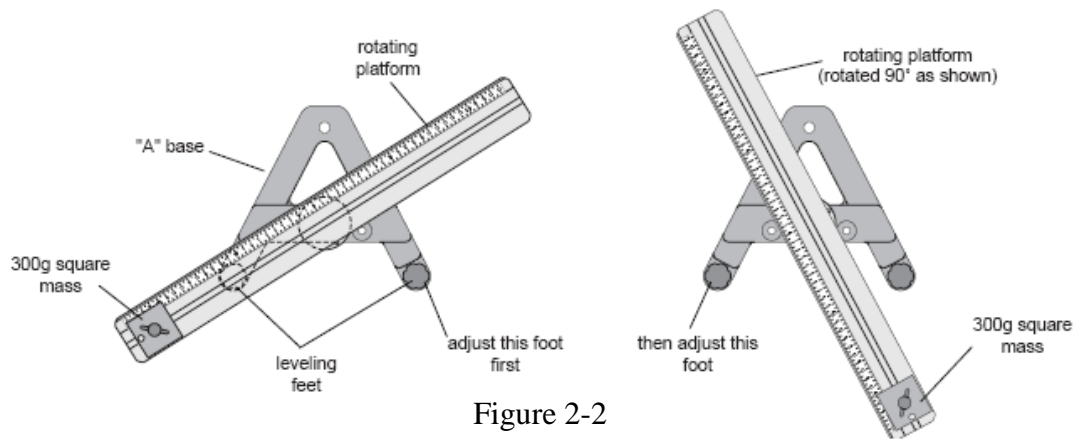

Figure 2-2
2. As shown in figure 2-2. Adjust the leveling screw on one of the legs of the base until the end of the track with the square mass is aligned over the leveling screw on the other leg of the base.